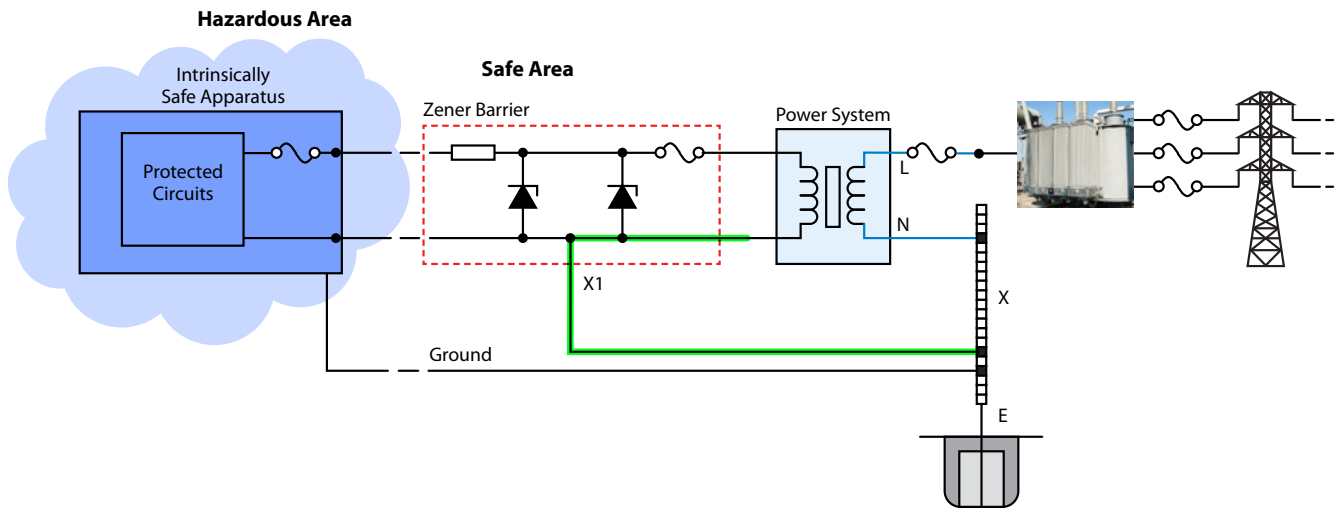

Figure 1. Intrinsic safety system using zener barrier.
Today, the installation, use, and maintenance of devices within potentially explosive areas requires that these devices be certified to provide protection against ignition. Intrinsic Safety (IS) is a practical method of achieving such protection. **Figures 1 and 2** show examples of common intrinsic safety systems.